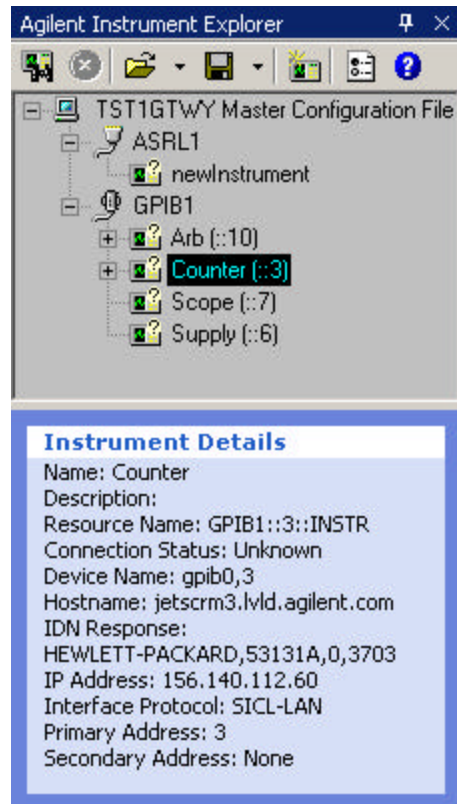

Figure 8 Instrument Description
- 5 Select an instrument and view detailed information about it in the Instrument Details area at the bottom of Instrument Explorer. See Figure 8 on page 30.